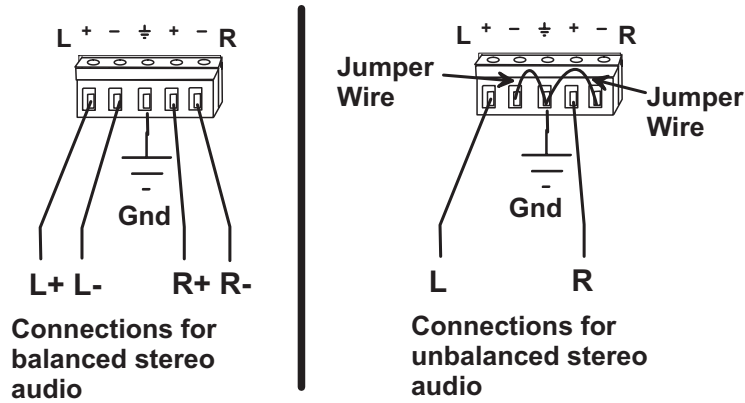

Figure 2- Stereo audio connection block
3. Audio connections can either be digital or analog (stereo). A connector marked "DIGITAL" is provided in each INPUT group for digital audio cable connection. A terminal block for the connection of a line-level stereo audio cable is located below each connector group. (See Fig. 1) The VEEMUX-A supports balanced line-level audio signals, as well as unbalanced. Fig. 2 shows the proper cable connection method for each.
2. Connect each digital audio device to a OUTPUT connector labeled "DIGITAL". If the audio device is a stereo type device, connect it an OUTPUT terminal block. Connections to the terminal block should be made as shown in Fig. 2 for devices that are compatible with balanced or unbalanced stereo audio.